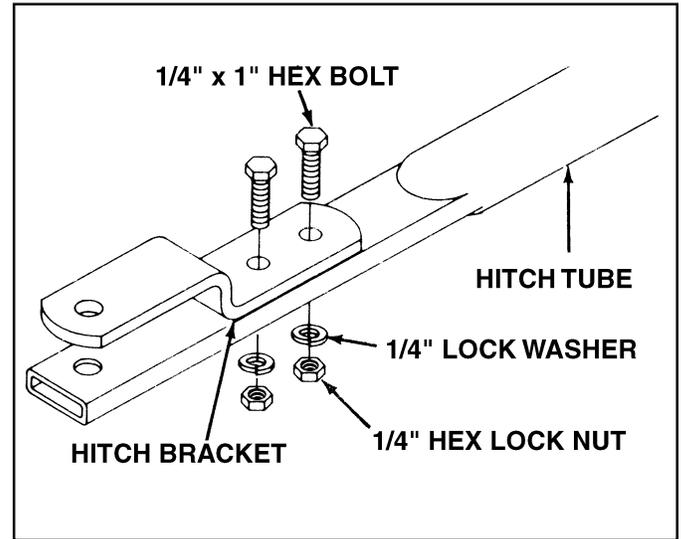

FIGURE 8
14. In order to assemble the hitch bracket to the hitch tube, turn the spreader upright on its wheels. Assemble the bracket to the top of the hitch using two 1/4" x 1" hex bolts, 1/4" lock washers and 1/4" hex lock nuts. See figure 8.